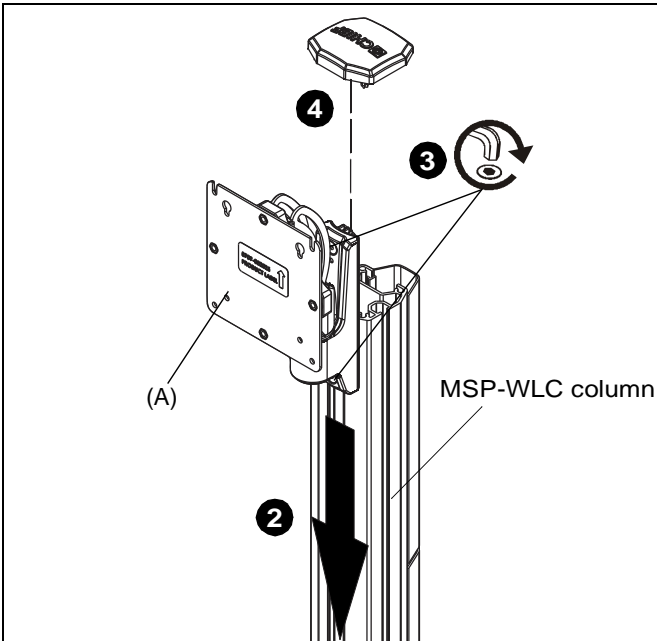

Figure 1
2. Slide MSP-WLK0 mount (A) onto MSP-WLC20/30 column in the front and center channel of the column. (See Figure 1)
3. Tighten screws to secure arm to column at desired mounting height. (See Figure 1)
4. Replace cap on top of column. (See Figure 1)